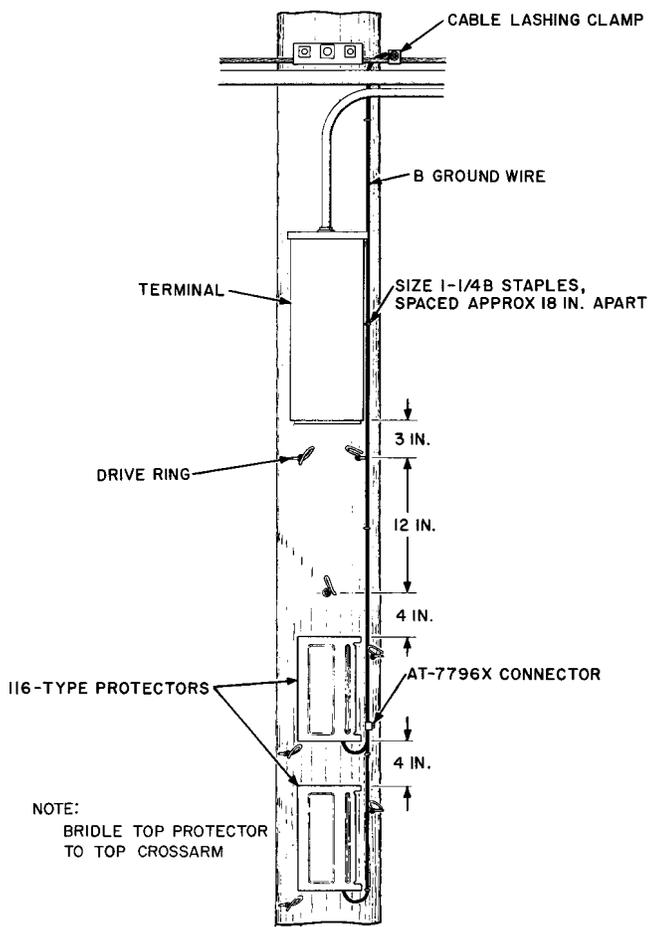

Fig. 6—Mounting 116-Type Protectors at Pole Mounted Terminal
3.02 Locate 116-type protectors when required at pole-mounted, nonprotected terminals as illustrated in Fig. 6. If open wire is to be protected, bridle the top protector to the top crossarm.
- (a) Place B Ground Wire as indicated in 5.02 (a) through (d). (See Fig. 6 and 9.)